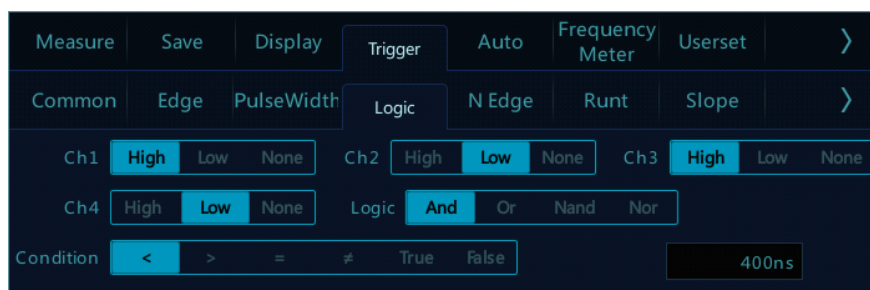

Figure 5-20 Logic Trigger Setting Menu
- 1) Tap “Trigger” on the main menu to open the trigger menu, select logic trigger in the trigger type, and set the logic trigger as follows, as shown in Figure 5-20: